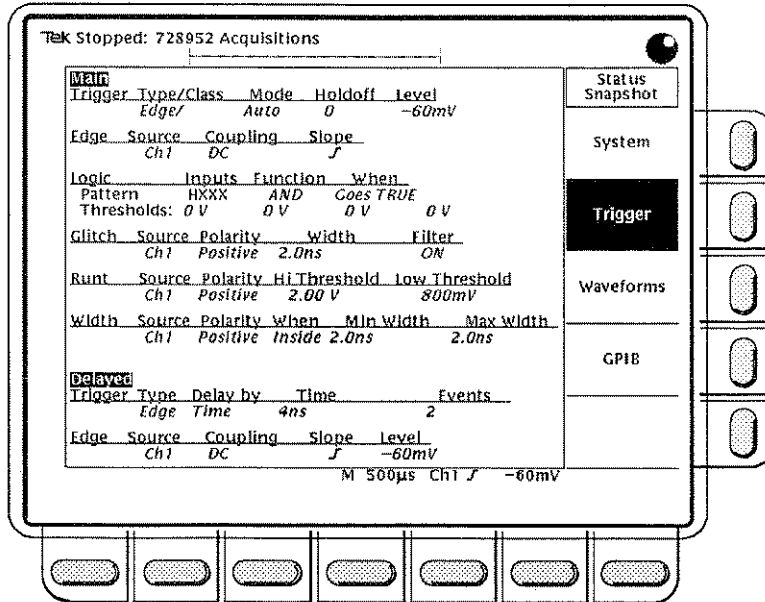

Figure 3-65: Status Menu – Trigger
- Step 3:** Select **Trigger** from the menu to display information about the parameters of the various triggers (Figure 3-65).